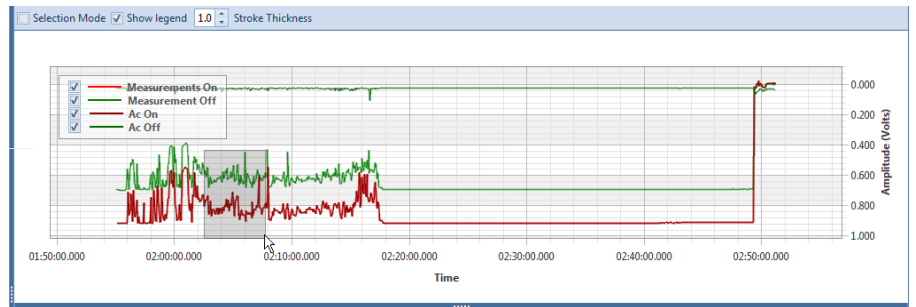

Figure 14-7. Zoom In On Graph
- Zoom In:** If the *Selection Mode* check box includes a check mark, click the check box to clear the check mark. Then click and hold the mouse while dragging a selection over the graph to zoom in on the selected area of the graph. Double-click anywhere inside the graph to return to normal graph view (Figure 14-7).